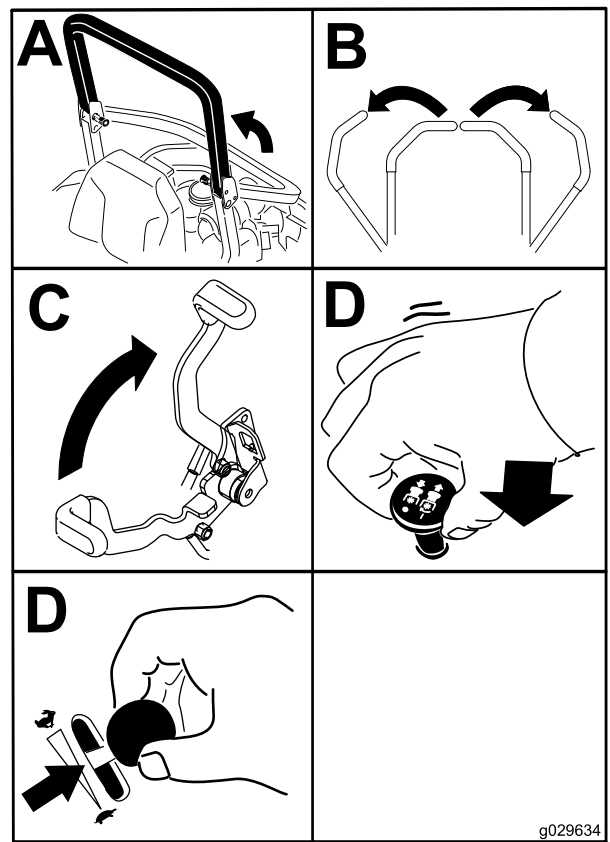

Figure 20
4. Move the blade-control switch (PTO) to the Off position (Figure 20).